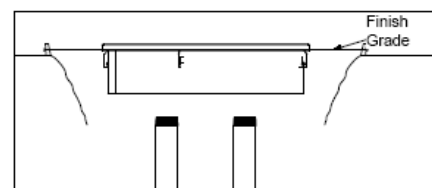

Figure 2
Test Figure 2
2. Set multi-port manhole assembly (skirt, ring, and cover) to 1 inch minimum (for slope) above the final grade position. The weight of the multi-port assembly must be supported when set into place, this may require a partial backfill and support structure. (See Figure 2.)
NOTE: Add an extra 3-1/4" when using an OPW FSA-400 and add an extra 1 3/4" when using the FSA-400S Face Seal Adaptor. (See Figure 2.) (Offset add extra 6").Deburr and thoroughly clean riser pipe(s). Apply pipe dope to riser(s). The pipe dope is to be a non-hardening, gasoline resistant, pipe thread seal compound.